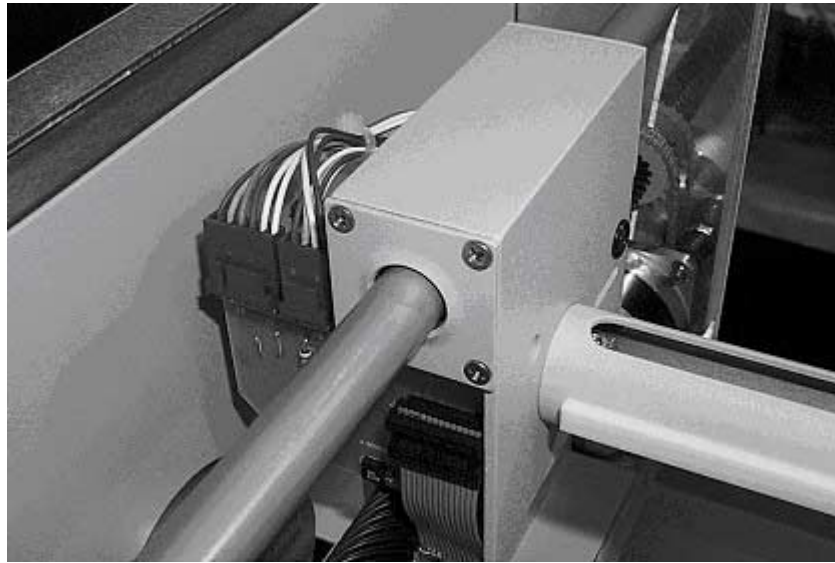

**Figure 1-7.** Front view of ASX-510 Auto-Sampler showing front cover screws.
5. Next, the front cover needs to be removed. Remove the four corner screws shown in Figure 1-7.